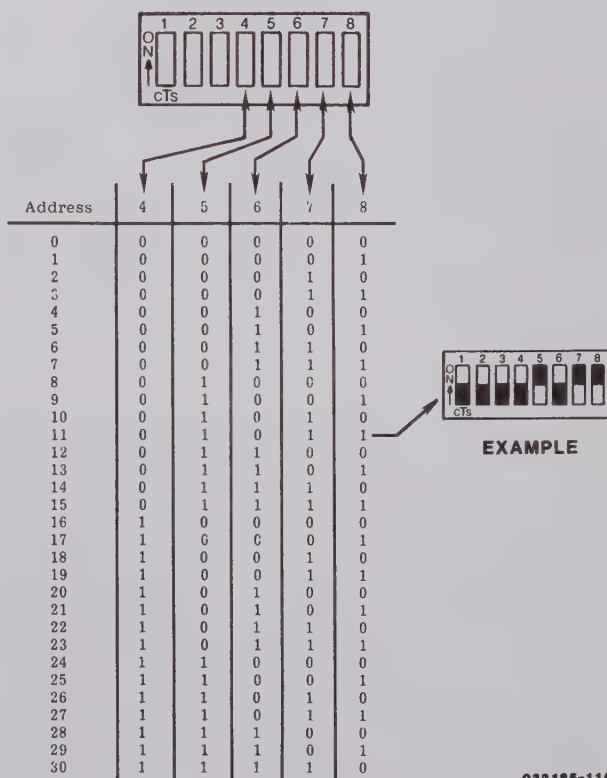

Fig. 20 - GPIB Address Dip Switch Setting
B.14 An 8-section DIP switch is located on the rear panel adjacent to the GPIB connector. It is used to select and set the GPIB talk/listen address. Table E and Figure 20 explains the DIP switch settings.